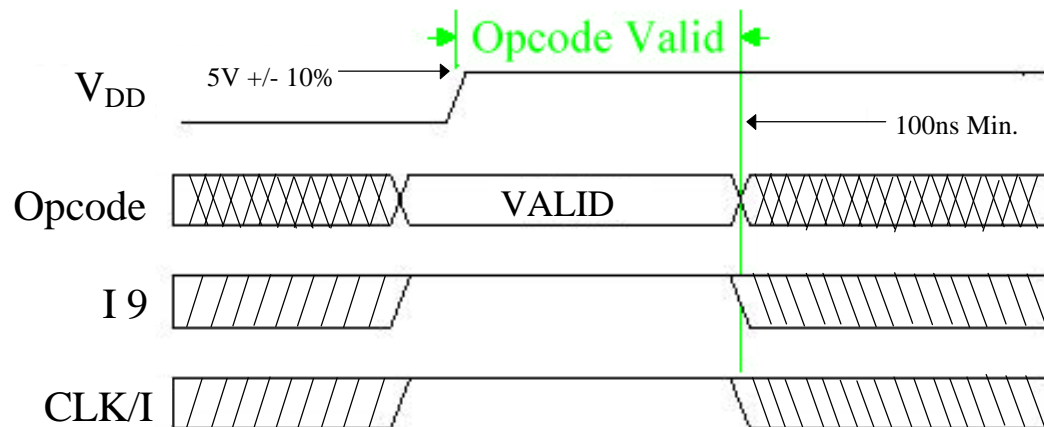

Figure 1. Opcode Timing
- Apply one of the opcodes from Table 1 for at least 100ns anytime after V_{DD} is within $5V \pm 10\%$ to ensure all test mode latches are cleared. Figure 1 shows the opcode timing diagram.